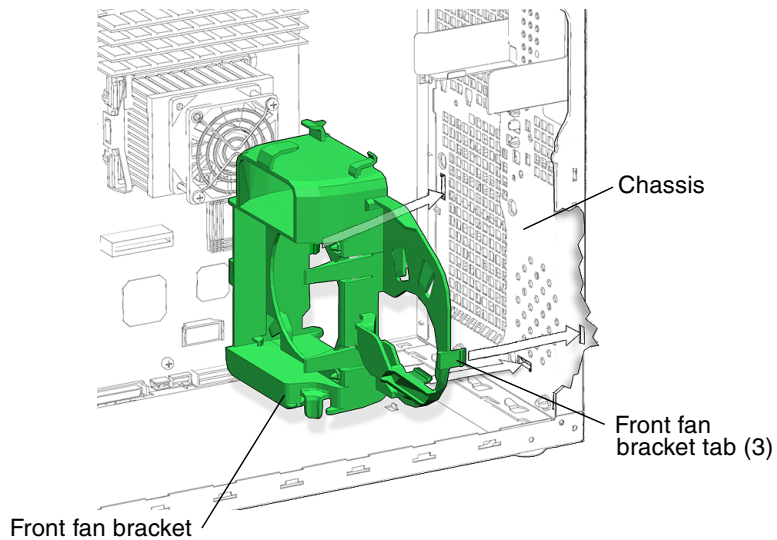

FIGURE 13-40 Installing the Front Fan Bracket
3. Install the front fan bracket (FIGURE 13-40).